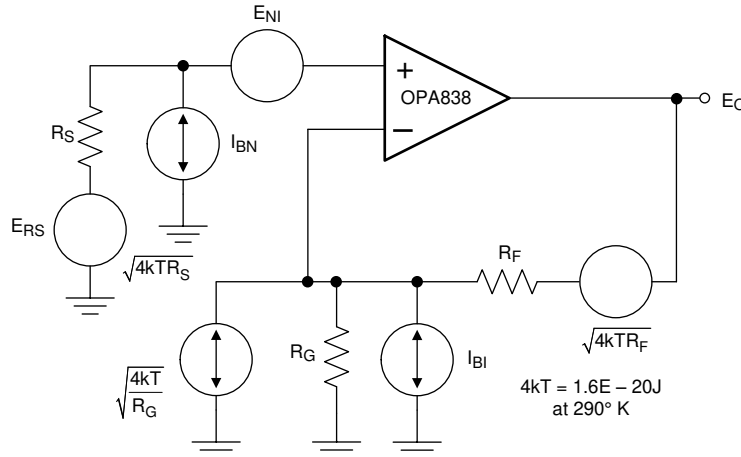
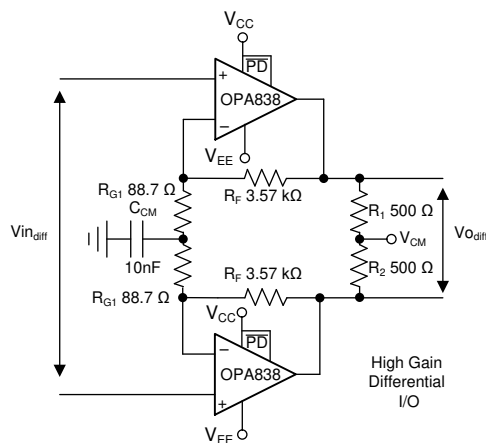

図 8-3. Op-Amp Noise-Analysis Model
図 8-4. High-Gain Differential I/O Stage
The decompensated voltage feedback of the OPA838 op amp offers among the lowest input voltage and current noise terms for any device with a supply current less than 1 mA. 図 8-3 shows the op amp noise analysis model that includes all noise terms. In this model, all the noise terms are shown as noise voltage or current density terms in nV/√Hz or pA/√Hz.
The total output spot noise voltage is computed as the square root of the squared contributing terms to the output noise voltage. This computation is adding all the contributing noise powers at the output by superposition, then taking the square root to return to a spot noise voltage. 式 3 shows the general form for this output noise voltage using the terms presented in 図 8-3.
A high-gain differential-to-differential I/O circuit can be used to drive a second-stage FDA or a differential-to-single-ended stage. This circuit is frequently used in applications where high input impedance is required (for example, if the source cannot be loaded). 図 8-3 illustrates an example design where the differential gain is 41 V/V. An added element between the two R_G resistors increases the noise gain for the common-mode feedback. Make sure to provision for the added element; otherwise, a decompensated VFA (such as the OPA838) often oscillates. With only the R_G elements in the differential I/O design, the common-mode feedback is
As an example design, start with the circuit in 図 8-4.
- Assess the DC common-mode biasing on the noninverting inputs. The DC biasing must be in range and have a gain of 1 to the output. This is not illustrated in 図 8-3.
- If a DC reference is used as the mid- R_G bias, setting the reference equal to the noninverting input bias voltage sets the output common-mode to that voltage. Using a capacitor as illustrated in 図 8-3 accomplishes the same results.
- Set the total R_G value near the high gain values using 表 8-1. This 178- Ω total must be split for a center tap to increase the common-mode noise gain, as shown by the 88.7- Ω value in 図 8-4.
The common-mode loop instability without the R_G center tap is not often apparent in the closed-loop differential simulations. The common-mode loop instability without the R_G center tap can often be detected in a common-mode output-noise simulation as 図 8-5 shows. Grounding the inputs 図 8-4 and running an output-noise simulation for the common-mode tap point in 図 8-3 shows a peaking in the noise at high frequency. This peaking indicates low-phase margin for the common-mode loop. 図 8-5 shows this peaking in the lowest noise curve, with two options for improving phase margin. The first option used in 図 8-4 is a capacitor to ground set to increase the common-mode noise gain only at higher frequencies. This increase can be seen by the peaking in the common-mode noise of 図 8-5. Another alternative is to provide a dc voltage reference on the R_G center tap. This method raises the common-mode noise gain from dc and beyond. Neither of these latter two options show any evidence of low phase-margin peaking. These two options do increase the output common-mode noise significantly at lower frequencies. Typically, an increase in output common-mode noise is more acceptable than low-phase margin because the next stage (FDA, ADC, differential to single stage) rejects common-mode noise.